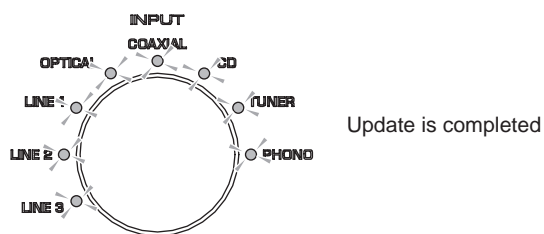

Fig. 4
3. After the firmware has been updated, all "INPUT" indicators light up. (Fig. 4)